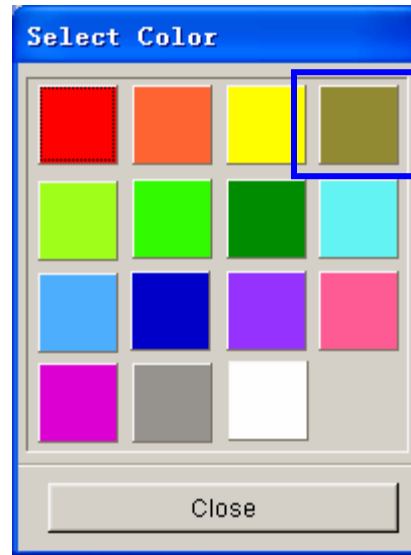

Figure 15: Select color dialog box
2. Select the part **DIE.S** from the part list. Change its color by clicking on the Color button and selecting a new color from the palette illustrated in Figure 15.